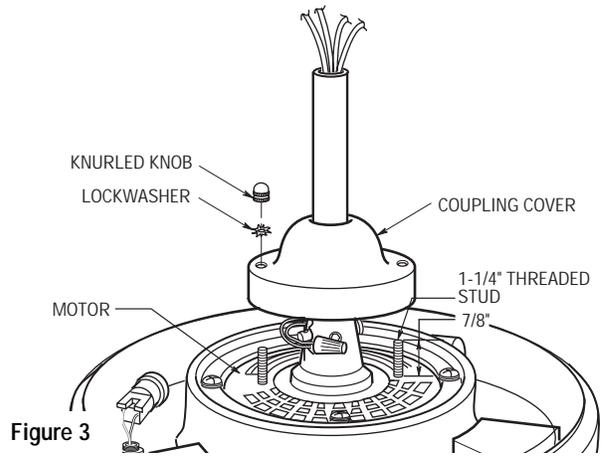

Figure 3
- 8. Screw two 1-1/4" threaded studs (supplied) into the motor (Figure 3). Leave approximately 7/8" of the stud extending above the motor. Coil the wires and wire connectors around the motor coupling, then slide the coupling cover over the downrod and rotate the cover until the threaded studs protrude. Install two lockwashers (supplied) and knurled knobs (supplied) to secure the cover to the motor. All wires and wire connectors must be enclosed under the coupling cover.